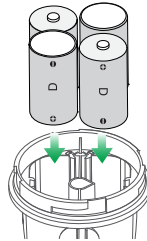

Figure 2
2. Insert batteries according to the polarity markings (+ and -) indicated inside the battery compartment (see **Figure 2**).